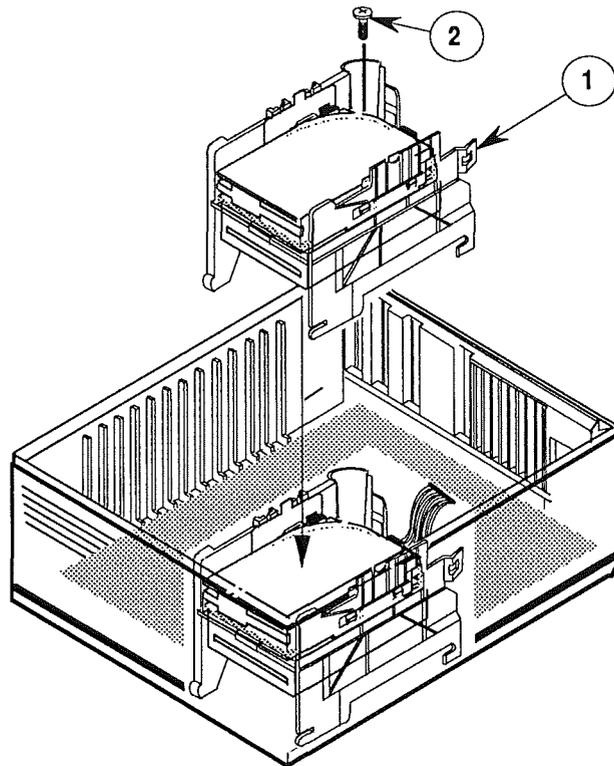

FIGURE 16
The latch (Figure 16, #1) on the outside rear of the carrier goes over the indent on the case side. The hole on the right-rear side of the carrier, where the screw goes, will line up with the hole in the logic board.
7. Secure the carrier to the bottom case with the Phillips screw (Figure 16, #2).